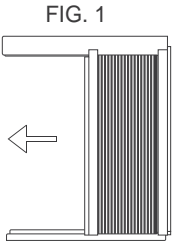

FIG. 2 "T" section
- Slide the free end "T" section of the panel directly into the cabinet as shown in FIG. 2. Slide the panel down. Be sure to leave enough space to slip the top and bottom of the frame into the rails on the cabinet.